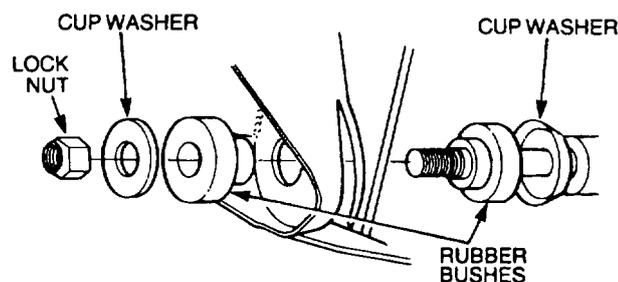

Figure 71 Radius Arm Bush Mounting
- i. Remove the locknut, washers and rubber bushes from the chassis end of each radius arm and discard the locknuts (Figure 71).
- e. Install a cup washer and rubber bush on each radius arm and insert each arm into the corresponding chassis bracket. Install the remaining rubber bush, cup washer and new locknut (Figure 71) but do not tighten it.